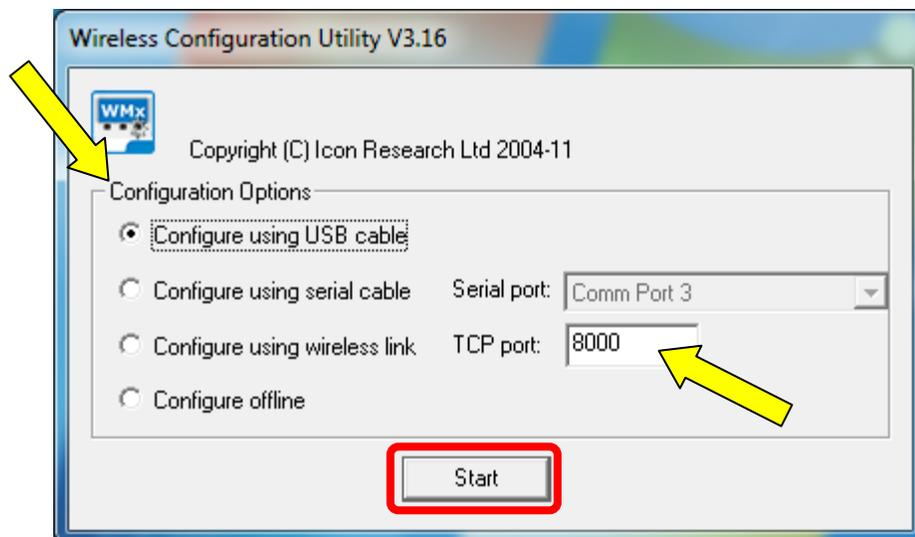

Figure 10. Wireless Configuration Utility
3. Choose the configuration under **Configuration Options**. [Figure 10]